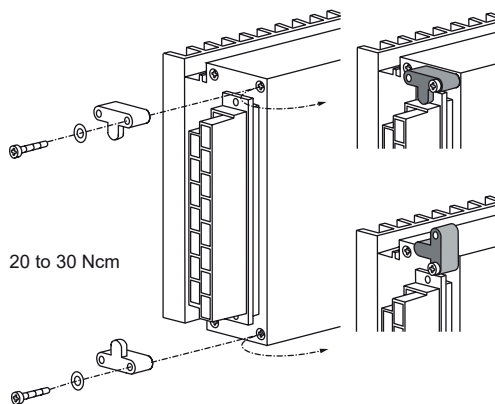

Fig. 45
- Connector retention brackets HZZ01216-G; see fig. 45